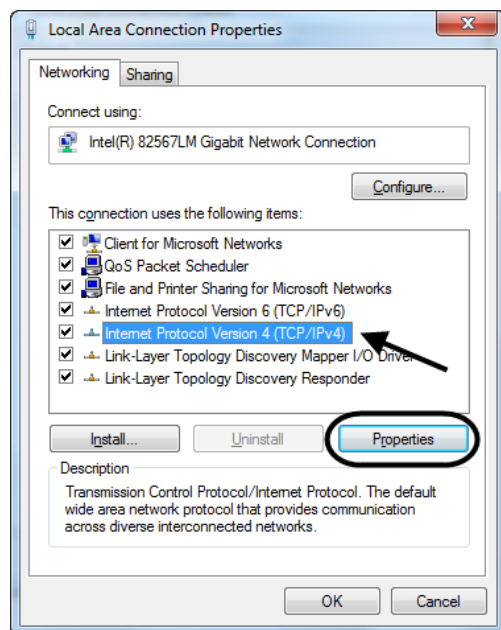

Figure 68
6. Highlight **Internet Protocol Version 4 (TCP/IPv4)** and then click **Properties** (Figure 68).